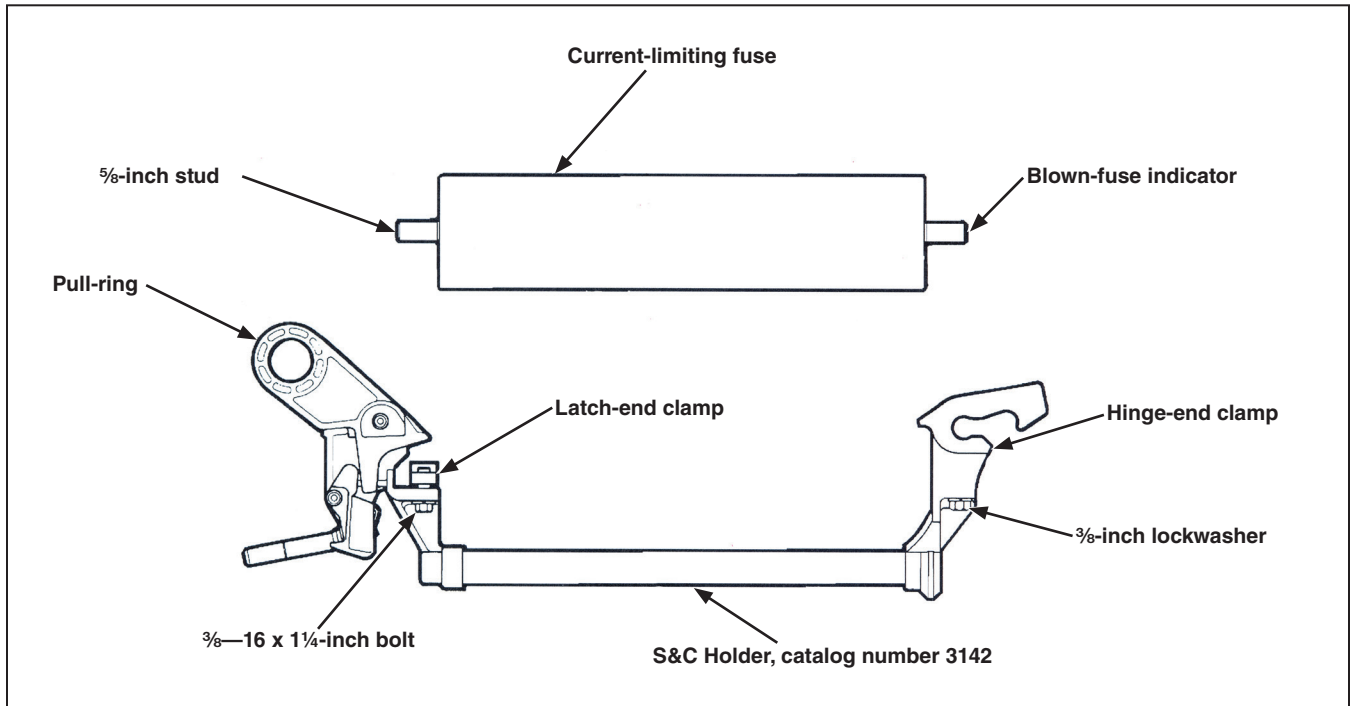
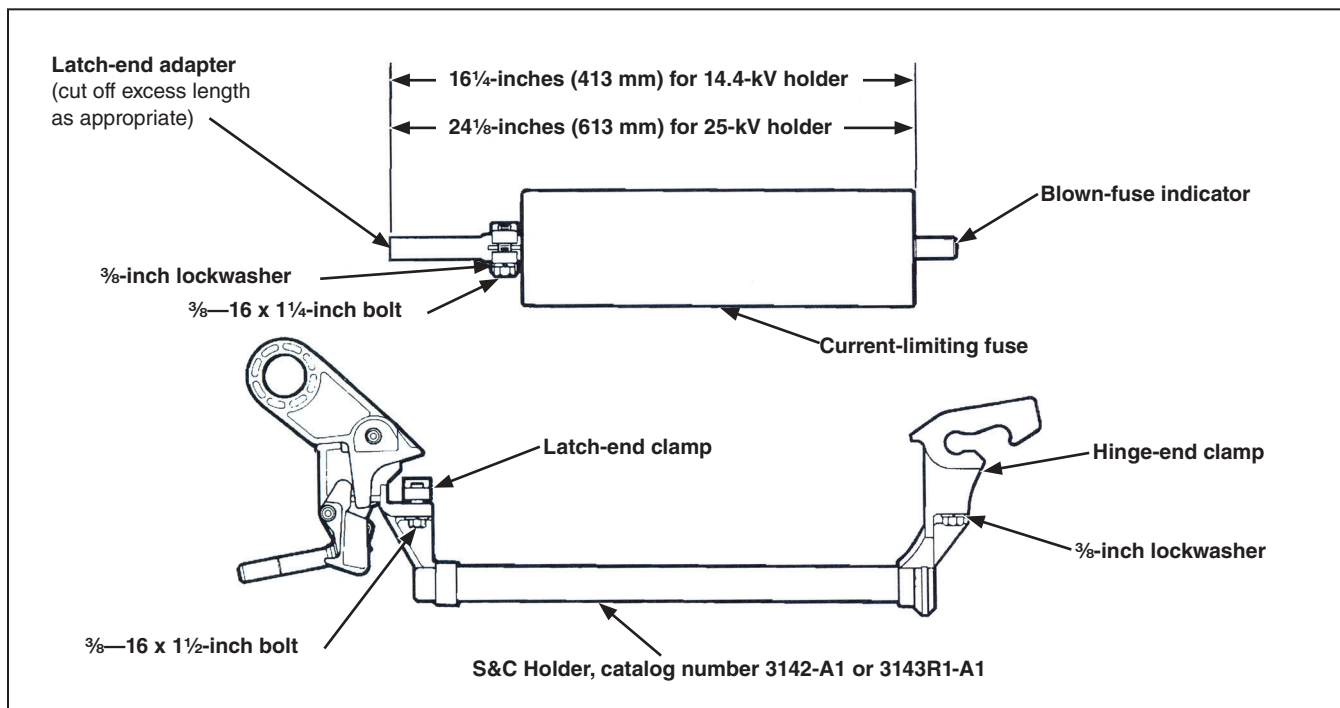
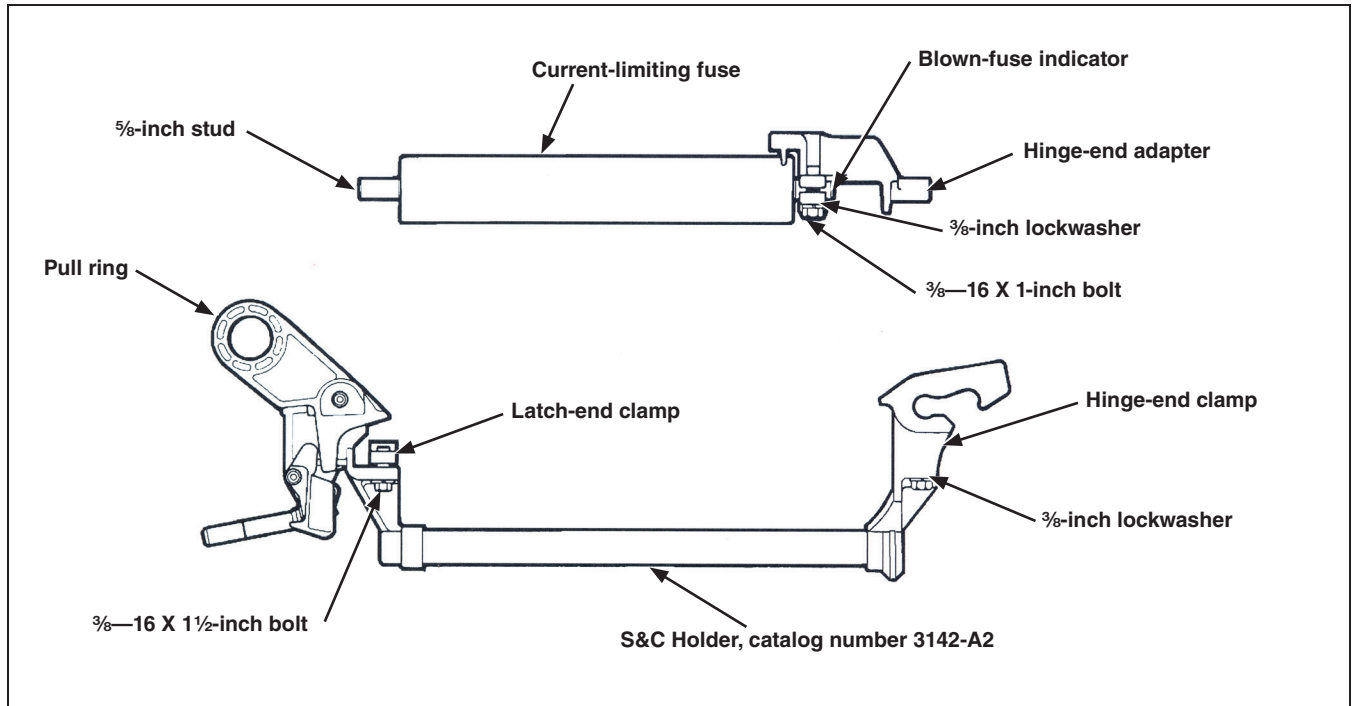
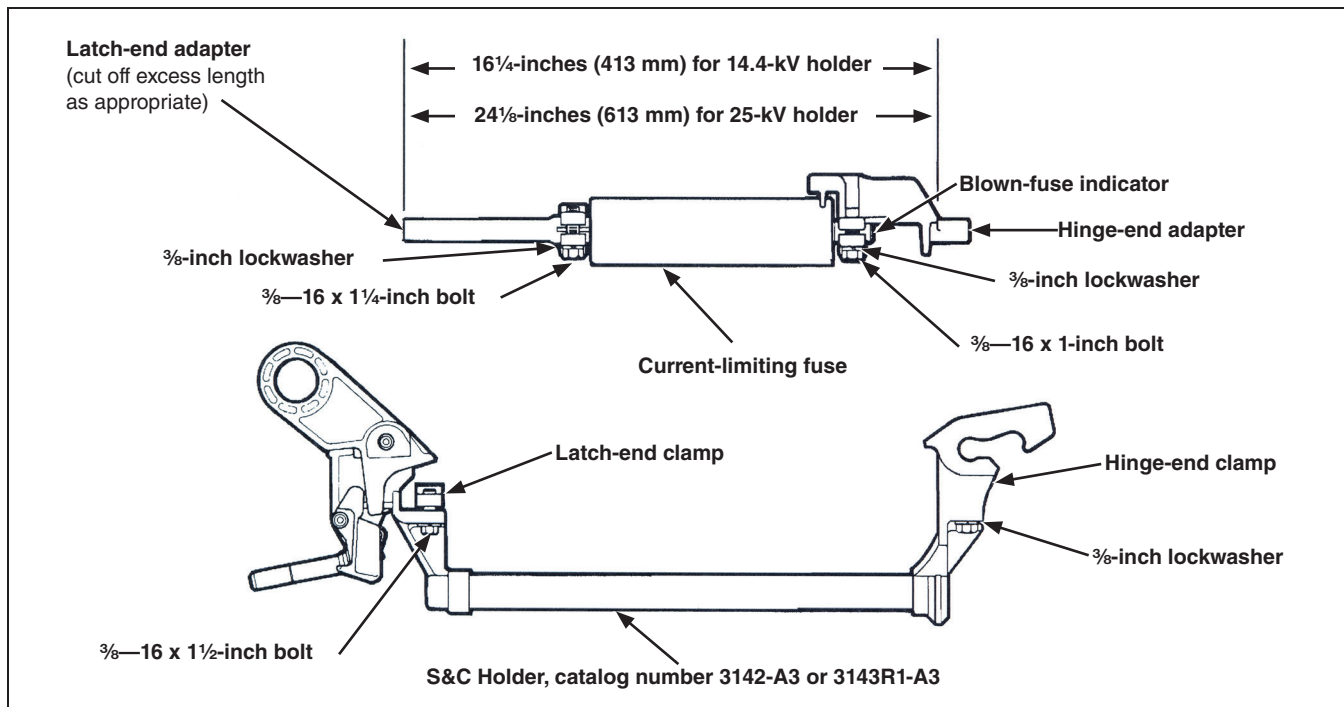

Figure 1. Installing a fuse requiring no adapters in S&C Holder, catalog number 3142.
Figure 2. Installing a fuse requiring a latch-end adapter in S&C Holders, catalog numbers 3142-A1 and 3143R1-A1.
Figure 3. Installing a fuse requiring a hinge-end adapter in the S&C Holder, catalog number 3142-A2.
Figure 4. Installing a fuse requiring latch-end and hinge-end adapters in S&C Holders, catalog numbers 3142-A3 and 3143R1-A3.
Adapters, when required, are furnished with the S&C Holder and are signified by a suffix to the holder's catalog number. An "-A1" suffix indicates a latch-end adapter is provided with the holder, and an "-A2" suffix indicates a hinge-end adapter is provided. See Figure 2 on page 8 and Figure 3 on page 9. Similarly, an "-A3" suffix signifies both latch-end and hinge-end adapters are furnished. See Figure 4 on page 10.
If the S&C Holder catalog number includes a suffix (“-A1,” “-A2,” or “-A3”), install the adapters furnished with the holder as instructed in the “Installing Adapters on the Fuse” section on page 8. If the holder catalog number does not include a suffix, no adapters are required to install the fuse in the holder. See Figure 1. In that case, proceed directly to the “Installing a Fuse In the Holder” section on page 10.
- STEP 1.** Loosen the $\frac{3}{8}$ —16 x $1\frac{1}{4}$ -inch stainless steel hex-head bolts on the latch-end adapter and slip the adapter over the $\frac{5}{8}$ -inch diameter stud at one end of the current-limiting fuse. See Figure 2.
- STEP 3.** Depending on the fuse length, the latch-end adapter may have to be shortened to fit the fuse and adapter assembly in the S&C Holder. The length from the bottom of the fuse barrel to the top of the adapter should be $16\frac{1}{4}$ inches (413 mm) for the 14.4-kV holder and $24\frac{1}{8}$ inches (613 mm) for the 25-kV holder. See Figure 2.
STEP 1. Loosen the $\frac{3}{8}$ —16 x $1\frac{1}{4}$ -inch stainless steel hex-head bolts of the hinge-end adapter and slip the adapter over the $\frac{5}{8}$ -inch diameter stud at one end of the current-limiting fuse. See Figure 3 on page 9.
- STEP 1.** Loosen the $\frac{3}{8}$ —16 x $1\frac{1}{4}$ -inch the hinge-end adapter stainless steel hexhead bolts and slip the adapter over the $\frac{5}{8}$ -inch diameter stud at one end of the current-limiting fuse. See Figure 4.
- STEP 4.** Depending on the fuse length, the latch-end adapter may have to be shortened to fit the fuse and adapter assembly in the S&C Holder. The length from the bottom of the hinge-end adapter (less the stud) to the top of the latch-end adapter should be $16\frac{1}{4}$ inches (413 mm) for the 14.4-kV holder and $24\frac{1}{8}$ inches (613 mm) for the 25-kV holder. See Figure 4.
Refer to Figure 1 on page 7, Figure 2 on page 8, Figure 3 on page 9, or Figure 4 on page 10, as appropriate, and follow these steps to install the current-limiting fuse in the S&C Holder: